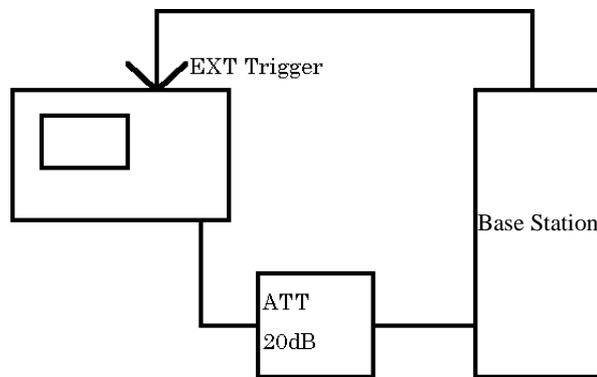

Figure 2-6 Connections for GSM Measurements
1. Connect the instruments as shown in Figure 2-6.